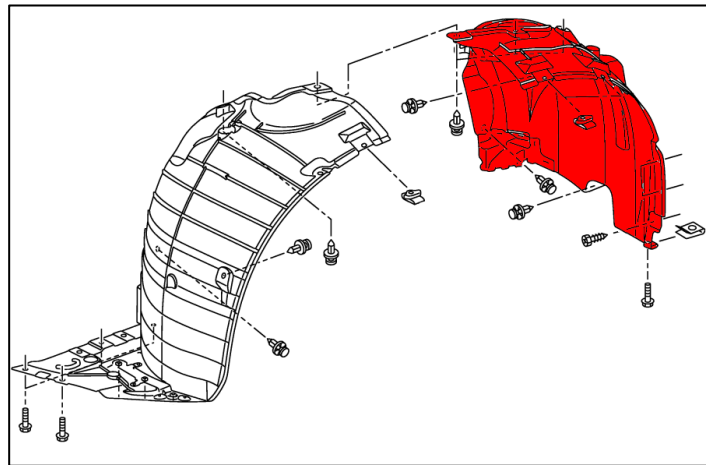

Figure 1
5. Remove the Plastic Clips and Bolts securing the rearward Fender Liner from the Front Driver Wheel Well and remove the Fender Liner. *Figure 1.*